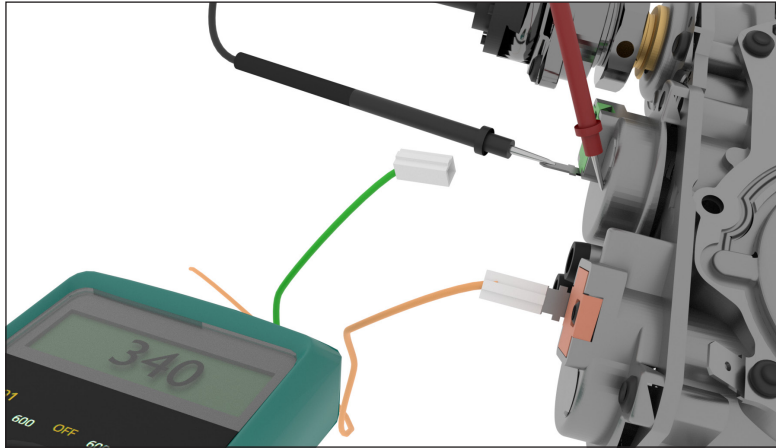

Figure 11: Output Voltage to Green Solenoid - Probing Points
3. Place one probe on the EV2 green terminal and the other probe to the valve body (see Figure 11).